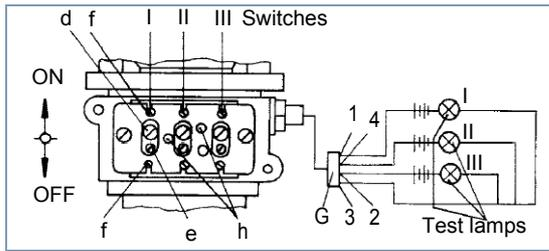

Fig. 8 Connection of the test lamps
- Release cylinder screw d (see fig. 8).
- Tighten set screw e until cut in point is reached (see fig. 8).
- Turn cylinder screw d with 1.2 Nm (see fig. 8).
- Release cylinder screw f of the concerning switch slightly (see fig. 8).
- On the cylinder screws f (see fig. 8) move the concerning switch in direction OFF and then in direction ON until cut in point is reached.
- Insert plate 461 908 107 4 in the locating bore h (see fig. 8).